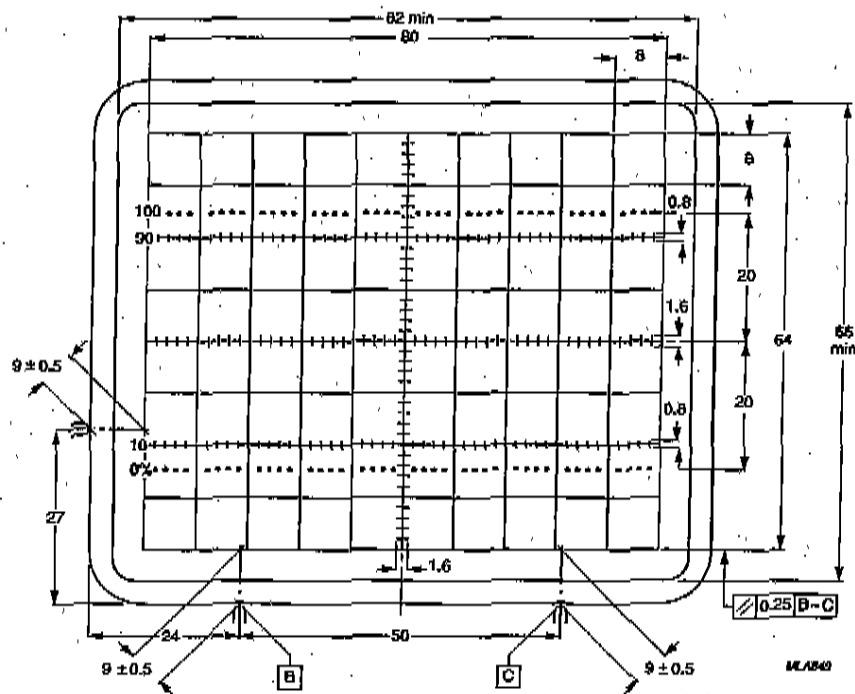

Fig.4 Front view of the tube with internal graticule, type 119.
Internal graticule	type 119 (see Fig.4)
The tube can be mounted in any position. It must not be supported by the socket and not by the base region alone. The reference points on adjoining edges of the faceplate (see Fig.4) enable the tube to be positioned accurately in the front panel, with optimum alignment of the internal graticule with respect to the bezel.
The internal graticule is aligned with the faceplate by using the faceplate reference points, see Fig.4 and note 1.
1. Because the frit seal is visible through the faceplate, and not necessarily aligned with the internal graticule, application of an external passe-partout with open area of max. 82 mm x 66 mm is recommended. The internal graticule is aligned with the faceplate by using the faceplate reference points (see Fig.4).